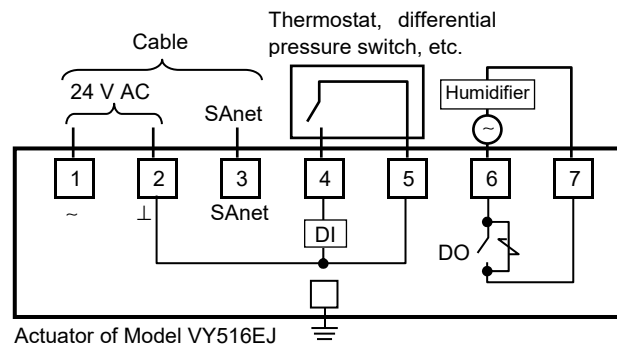

Figure 11. Basic connection example
- 3) Correctly connect the wires to the terminals with M3.5 screw terminal lugs, referring to Fig. 11. To connect a device with over 100 V AC to the sub-DO (terminals 6 and 7), be sure to ground the actuator with 100 Ω or lower ground resistance. Refer to Fig. 11 for the location of each terminal.